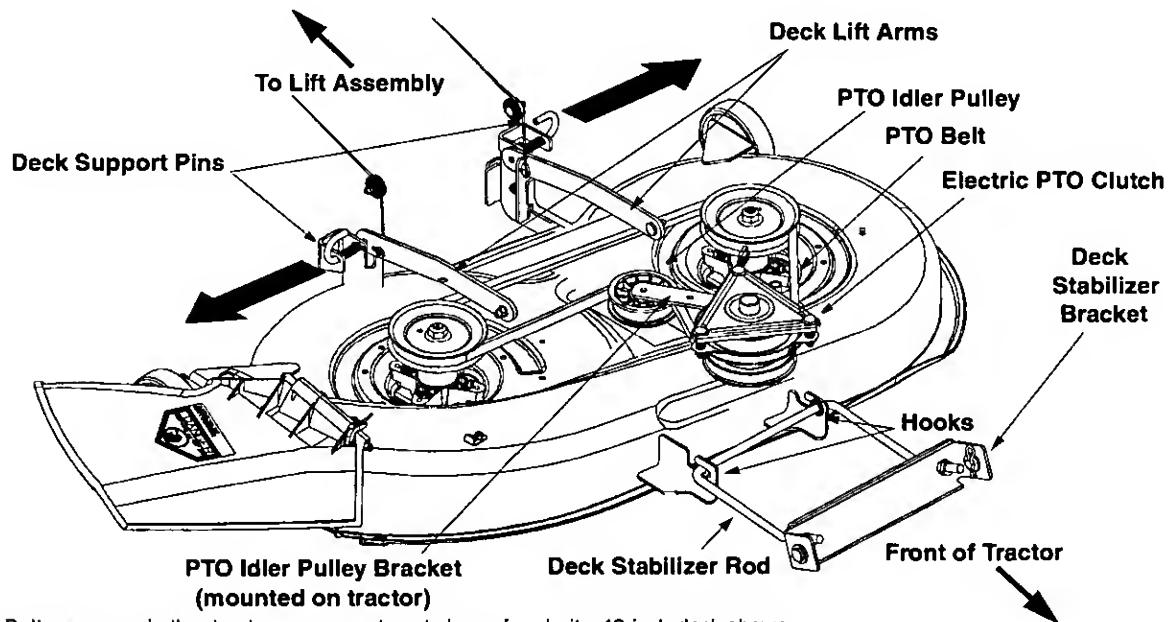

Figure 14
- Pull the deck support pin outward to release the deck from the deck lift arm. See Figure 14.
- Route the new belt as shown in Figure 14, around the deck pulleys, idler pulley and electric PTO clutch.